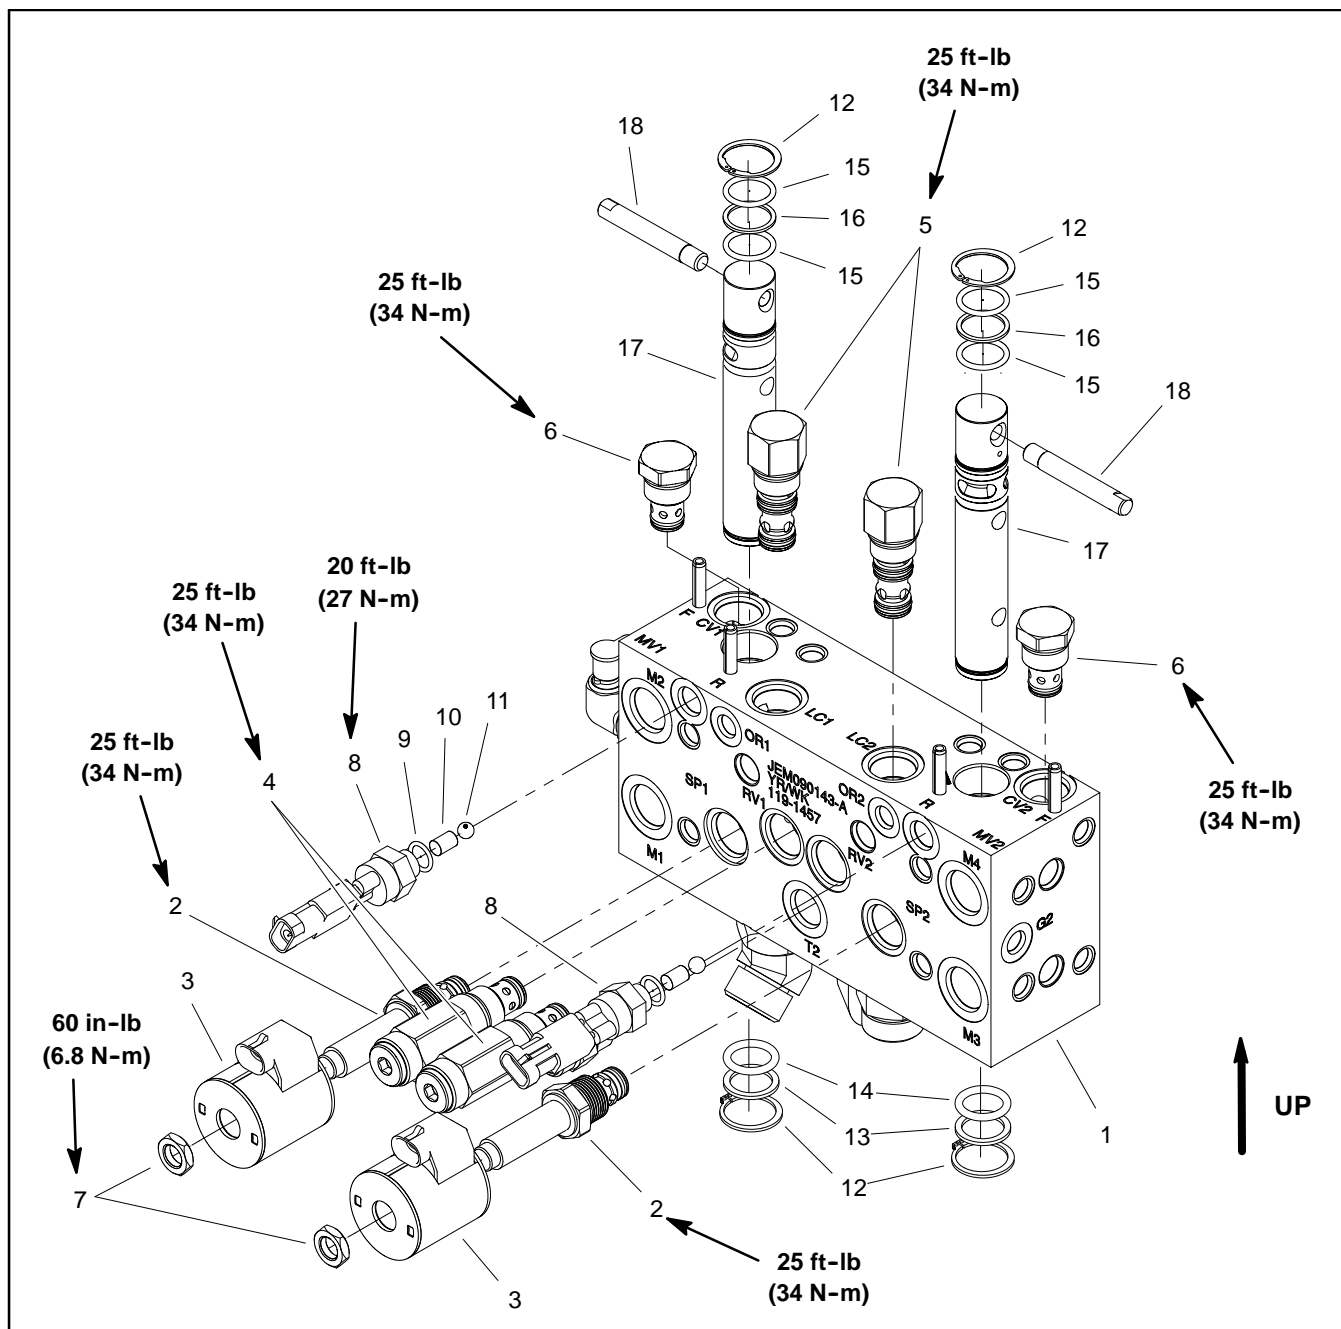

Figure 74
1. For cartridge valve service procedures, see Control Manifold Cartridge Valve Service in this section. Refer to Figure 74 for cartridge valve installation torque.
Mow/Backlap Spool Service (Fig. 74)